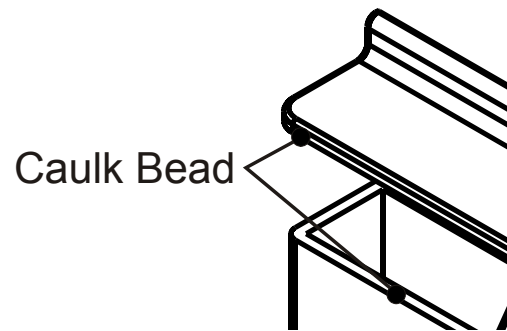

Figure 2.
- 4) Remove the template. Drive the four 2-1/8" anchors provided into the drilled holes for the toilet using a hammer and the setting tool supplied. The anchor should be driven in flush with the floor for floor-mounted toilets. (see Figure 2).
NOTE: Refer to Figure 2 for standard Aquasurf® Solid Surface countertops.